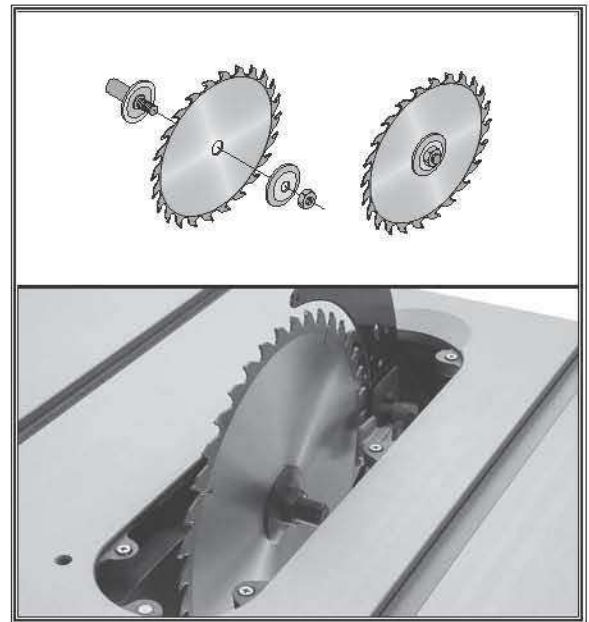

Figure 45. Correct order of installation with teeth facing the correct direction.
4. Install new blade, flange, and arbor nut on arbor (as shown in **Figure 45**) with teeth facing front of saw.